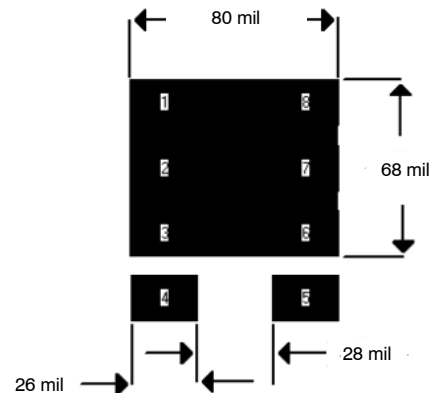
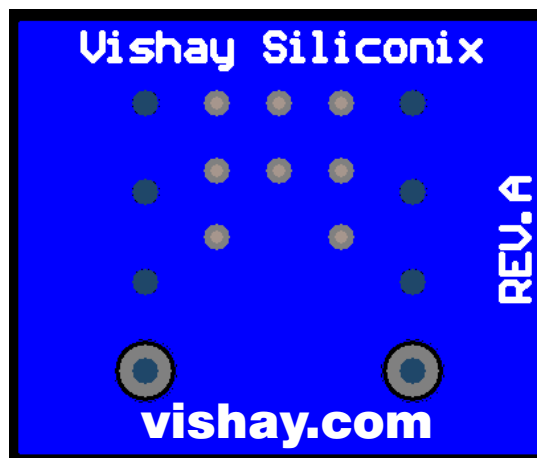

FIGURE 2. Footprint With Copper Spreading
FIGURE 3.
The pad pattern with copper spreading shown in Figure 2 improves the thermal area of the drain connections (pins 1,2,3,6,7,8) while remaining within the confines of the basic footprint. The drain copper area is 0.0054 sq. in. or 3.51 sq. mm). This will assist the power dissipation path away from the device (through the copper leadframe) and into the board and exterior chassis (if applicable) for the single device. The addition of a further copper area and/or the addition of vias to other board layers will enhance the performance still further. An example of this method is implemented on the Vishay Siliconix Evaluation Board described in the next section (Figure 3).
1) Minimum recommended pad pattern (see Figure 2) on the evaluation board size of 0.5 in x 0.6 in.	$156^{\circ}\text{C/W}$
2) The evaluation board with the pad pattern described on Figure 3.	$111^{\circ}\text{C/W}$